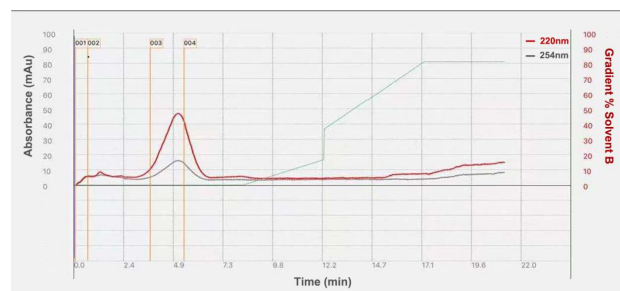
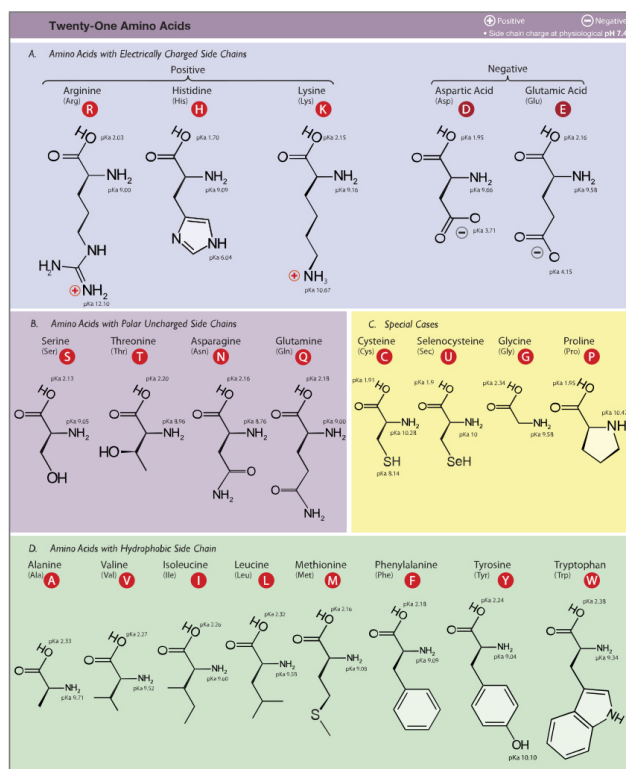

Figure 2. The Flash chromatogram of the sample on a C18AQ cartridge.
Figure 3. The chemical structure of twenty-one amino acids (reproduced from Wikipedia).
According to previous experience of the purification of these highly polar samples, we used an aqueous C18AQ cartridge as a start to purify the sample. The Flash chromatogram of the sample was shown in Figure 2.
As shown in Figure 2, the sample could not be well retained on the C18AQ cartridge. The sample was eluted out from the cartridge by the mobile phase in about one column volume (CV), resulting poor separation between the target product and the impurities in raw sample. The reason behind this might be the existence of a large number of polar groups in the sample structure, such as Serine, Threonine, Asparagine, Glutamine, etc (Figure 3). On the other hand, there might be plenty of electrically charged groups in the sample structure, including Aspartate, Glutamate, Lysine, Arginine, Histidine, etc. These polar or electrically charged groups cannot have enough hydrophobic interactions with the hydrophobic C18 carbon chains, resulting poor retention of the sample on the C18AQ cartridge.